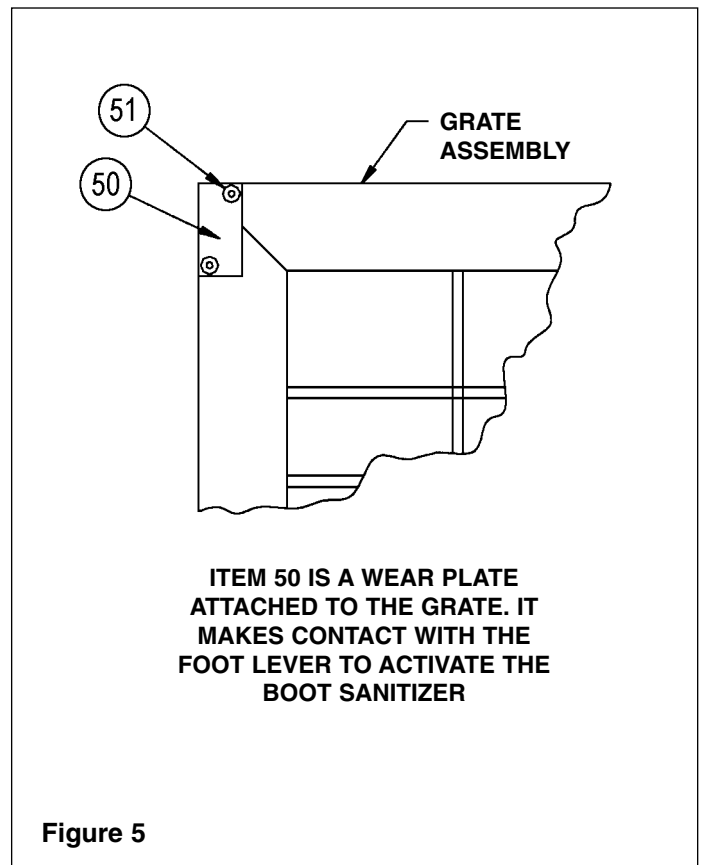

Figure 5
4. Place grate sub assembly over the springs making sure plastic wear plate (Figure 5) is oriented correctly over foot valve lever.